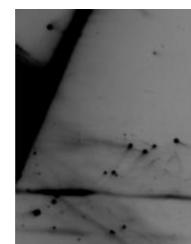

Figure 3. Top left corner of blot image, identification of spots is difficult to distinguish due to the presence of non-spot features, noise and streaking.
- Identification of discrete spots is challenging in these images as there are areas of streaking on the blot and presence of non-spot features on both images (figure 3), each images has different background intensities, affecting the visibility of spots. An optimised gel running, blotting and imaging process would minimise these issues.